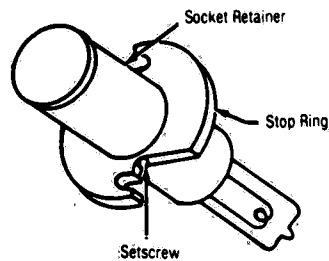

Figure 4-13. LAMPHOLDER ASSEMBLY.
4. Loosen two setscrews on stop ring (see Figure 4-13).